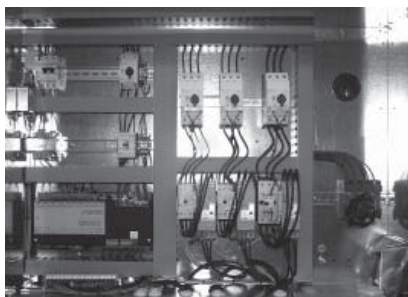

Fig.1
- **In case of prolonged shut-down of the unit during winter (if not added with glycol) or for other inconveniences, drain the chiller hydraulic circuit by the corresponding knobs (see fig.1 and fig.2)**
- For functional connection of the unit take the supply power cable to the electrical panel inside the unit fig.1 in the previous page and connect it to the disconnecting switch terminals observing the phase, and the earth. fig.2
The first start-up has to be carried out with the standard settings, only at last test vary the values of the operation Set Point. Before starting, power the unit for at least 12-24 hours by positioning the protection thermomagnetic switch and the door-block disconnecting switch on ON fig.1